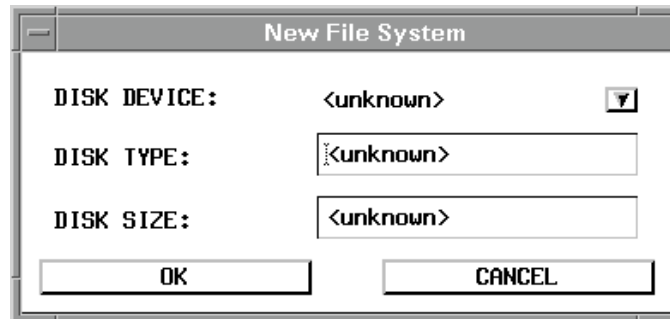

Figure 16. New File System Window
STEP 1: Click on the `NEWFS` button. The New File System window appears (Figure 16).